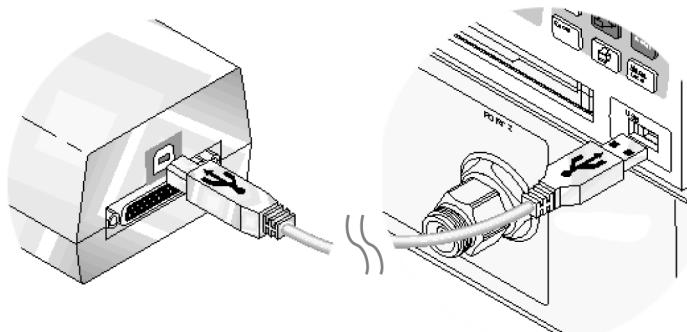

Figure 43 Connecting Calibration Module's USB Cable
- 4 Connect a USB cable between the calibration module and one of the VNA's front or rear-panel USB connectors as shown in Figure 43.